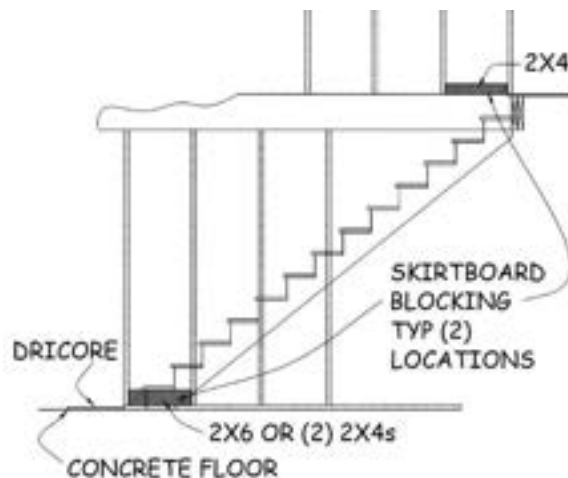

Figure 10-7. Blocking for Skirtboard.
1. At the bottom of the stairs, install a piece of 2x6 or two pieces of 2x4 blocking for the skirtboard, extending from the end of the stringer to at least 5" past that point (see Figure 10-7).